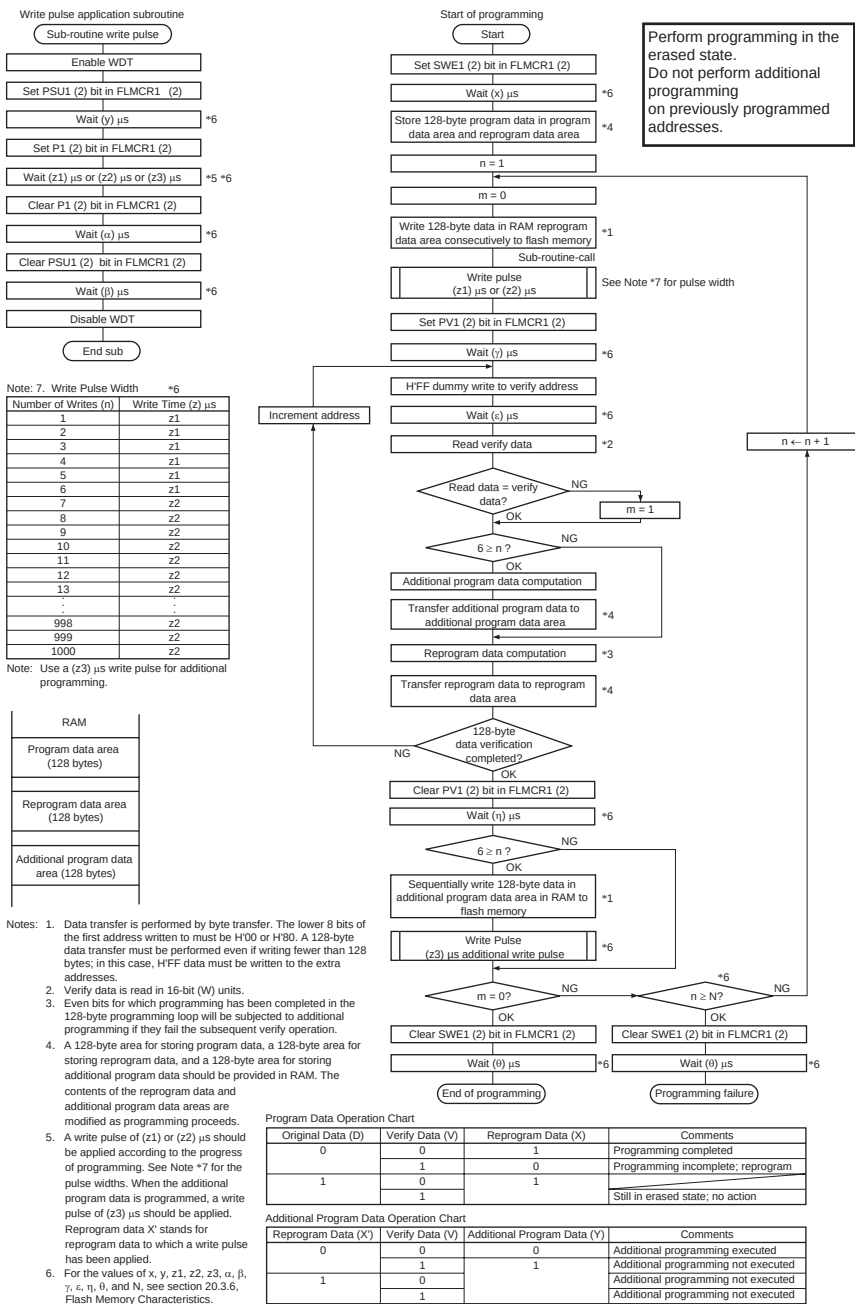

Figure 17.45 Program/Program-Verify Flowchart
Follow the procedure shown in the program/program-verify flowchart in figure 17.45 to write data or programs to flash memory. Performing program operations according to this flowchart will enable data or programs to be written to flash memory without subjecting the device to voltage stress or sacrificing program data reliability. Programming should be carried out 128 bytes at a time.
After the elapse of a given programming time, the programming mode is exited (the Pn bit in FLMCRn is cleared to 0, then the PSUn bit is cleared to 0 at least $(\alpha) \mu\text{s}$ later). Next, the watchdog timer is cleared after the elapse of $(\beta) \mu\text{s}$ or more, and the operating mode is switched to program-verify mode by setting the PVn bit in FLMCRn. Before reading in program-verify mode, a dummy write of H'FF data should be made to the addresses to be read. The dummy write should be executed after the elapse of $(\gamma) \mu\text{s}$ or more. When the flash memory is read in this state (verify data is read in 16-bit units), the data at the latched address is read. Wait at least $(\epsilon) \mu\text{s}$ after the dummy write before performing this read operation. Next, the originally written data is compared with the verify data, and reprogram data is computed (see figure 17.45) and transferred to the reprogram data area. After 128 bytes of data have been verified, exit program-verify mode and wait for at least $(\eta) \mu\text{s}$, then clear the SWEn bit in FLMCRn to 0, and wait again for at least $(\theta) \mu\text{s}$. If reprogramming is necessary, set program mode again, and repeat the program/program-verify sequence as before. However, ensure that the program/program-verify sequence is not repeated more than (N) times on the same bits.